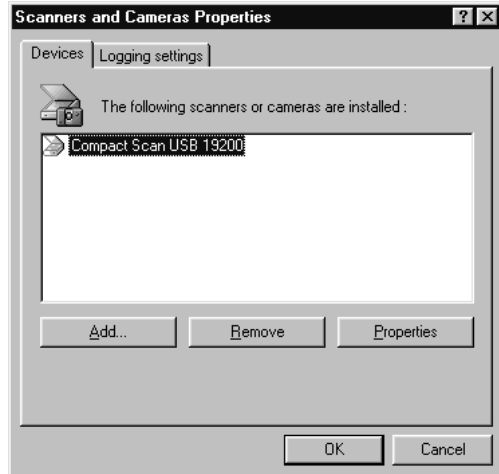

Figure 32: Scanner properties
4. Double click on the icon 'Scanners and cameras'. Figure 32 pops up.